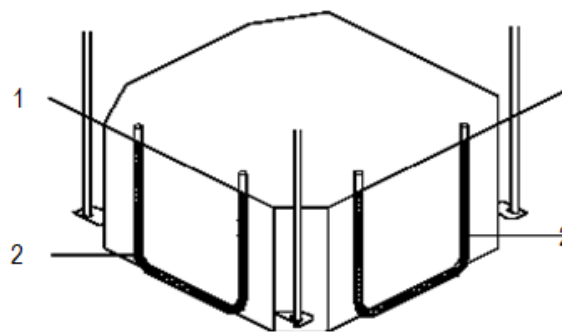

Fig. 30 – Ensure Unit is level
- b. Check if the unit is leveled at all four corners with a water level or a water-filled vinyl tube (see Fig. 30).